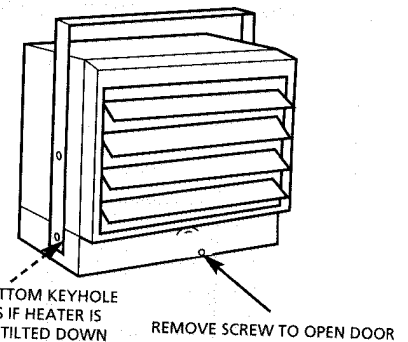

Figure 5
4. If the heater is to be tilted, it must be positioned in the keyhole slots (See Figure 5).
2. Tilting the unit - Loosen the bracket screws, tilt the heater to the desired position, and re-tighten the bracket screws (See Figure 5).